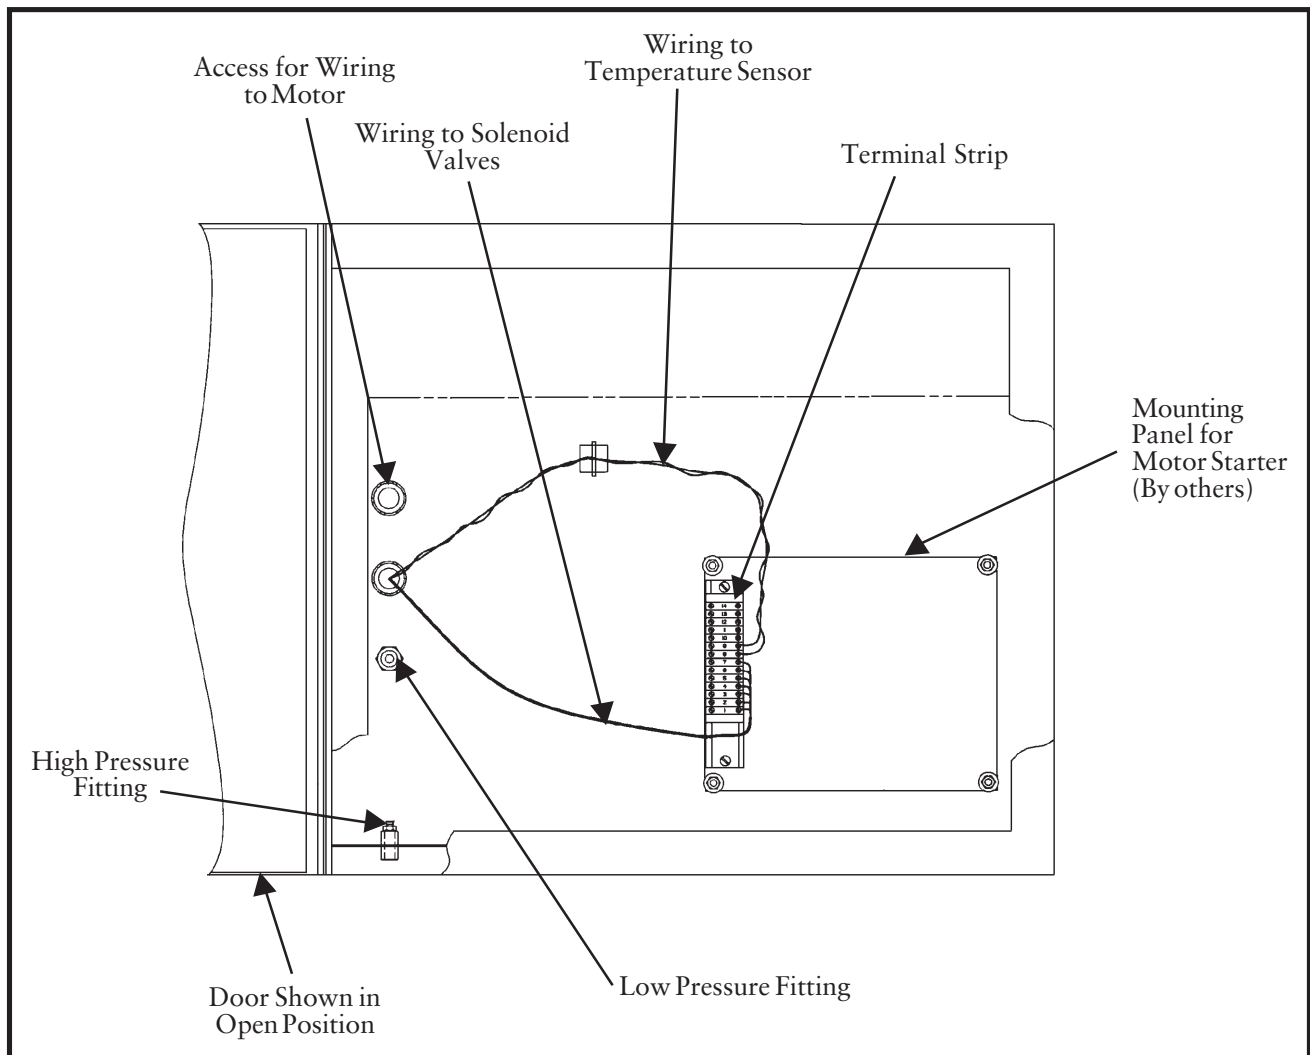

Figure 19
4. Unwired with the Checker board in a remote enclosure (see Figure 19 Unwired with Checker Board in Remote Enclosure).
2. Install and wire the motor starter, control circuit transformer, and other motor control components as required (see Figure 19 Unwired with Checker Board in Remote Enclosure).